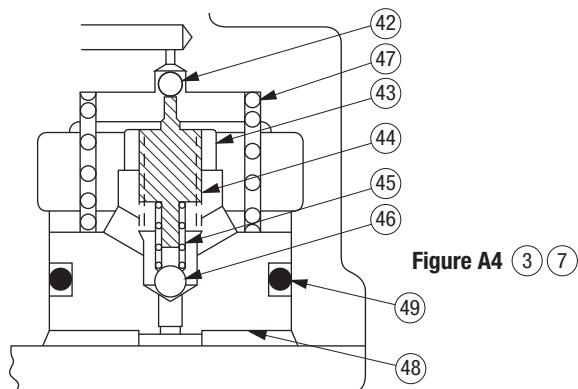

Figure A4 (3) (7)
Low-pressure relief valve is dirty or is set incorrectly.	To clean and adjust this valve, see Low-Pressure Relief Setting, Figure A4 in the Repairs section of this manual.
Low-pressure relief valve is set too low.	See Low-Pressure Relief Setting, Figure A4 in the Repairs section of this manual.
The pilot piston does not advance freely.	See Hydraulic Schematic (7). See Low-Pressure Relief Setting, Figure A4 in the Repairs section of this manual. Clean and inspect items 42-49. Replace parts as necessary.
Refer to Figure A4. Lightly bottom the stem (44) on the ball (46). Then, back out the stem 3-1/2 turns. Tighten nut (43). The resulting pressure setting should be approximately 19 bar (280 psi).